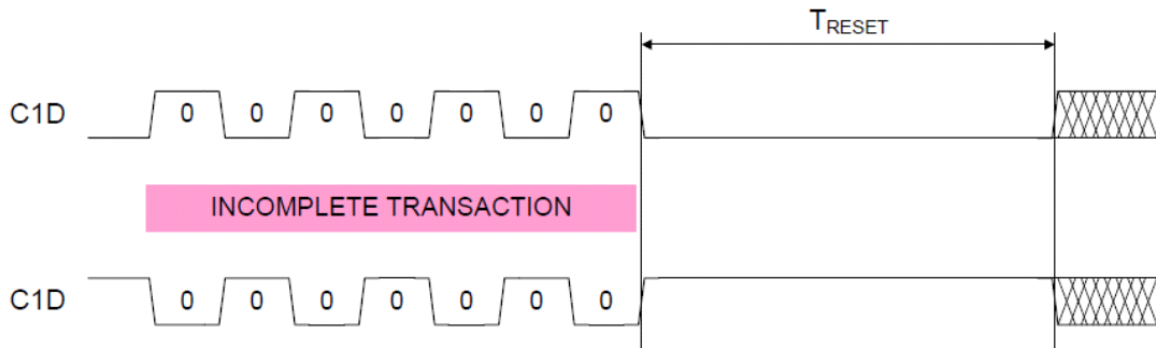

Figure 1. C1D Transition Abort
7. If the C1D value is held steady for T_{RESET} time in the middle of a transaction, the transaction will abort and all the data will be discarded. Figure 1 illustrates a C1D transaction abort.